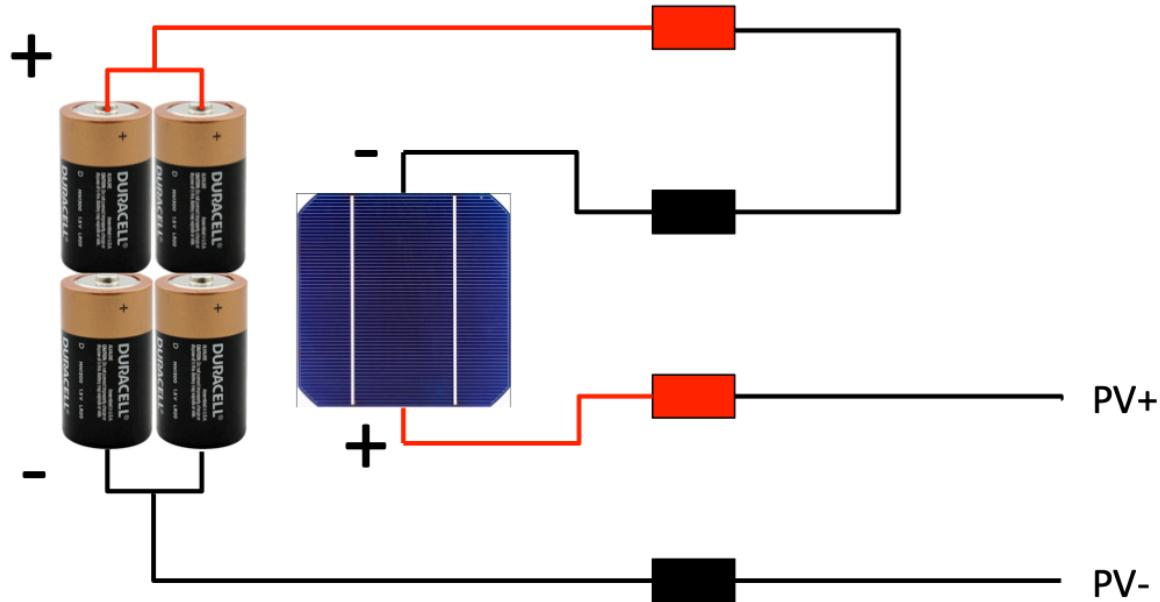

Figure 9-7: Connections with 2nd Relay ON
The binding post connections when the 2nd relay is active (ON) are shown in Figure 9-7 below.